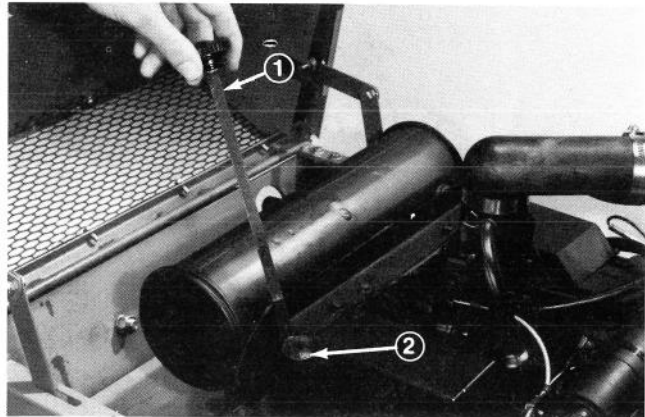

Figure 9
3. Unscrew dipstick and wipe it with a clean rag. Screw dipstick into the filler neck and make sure it is seated fully. Unscrew dipstick out of filler neck and check level of oil (Fig. 9). If oil level is